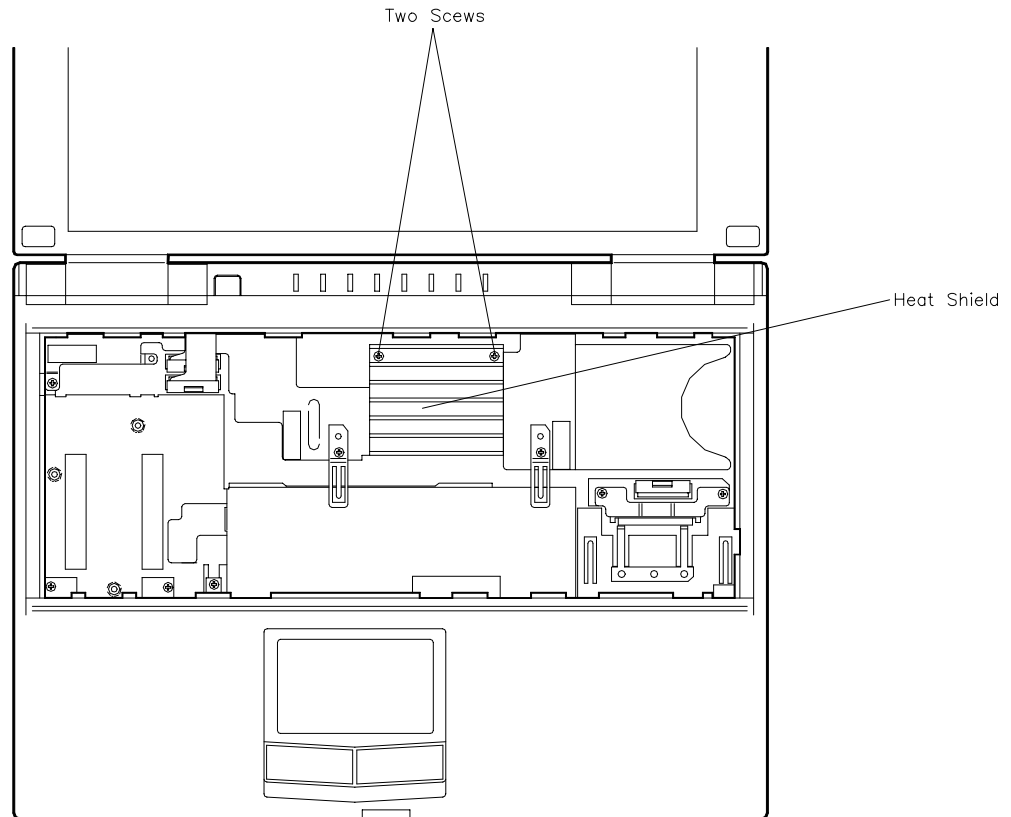

Figure 4-6 Removing the Heat Sink/Shield Subassembly
2. To lift out the heat sink/shield subassembly. Lift at the location shown in Figure 4-6 and gently move this corner in a clockwise direction while lifting up on the heat/shield subassembly and at the same time gently apply a slight outward press to the plastic forward of the inboard right latch cover.